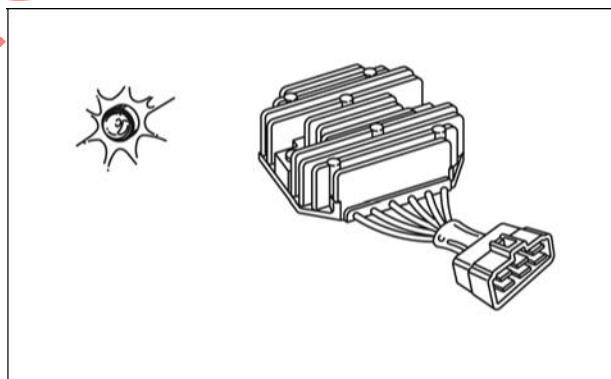

Figure 10
2. The regulator-rectifier converts the AC current to DC and regulates current to the battery (Figure 10). The charging rate will vary with engine RPM. The regulator-rectifier is equipped with a charging indicator light circuit.